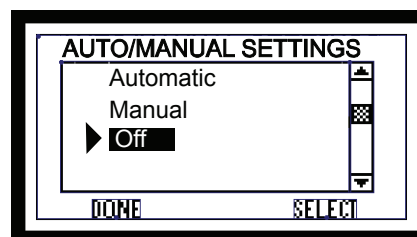

Figure 35.1
1. Set wall control to OFF on AUTOMATIC / MANUAL SETTING screen. **Figure 35.1.**
After servicing, restart with the AUTO/MANUAL SETTINGS screen. **Figure 35.1.**